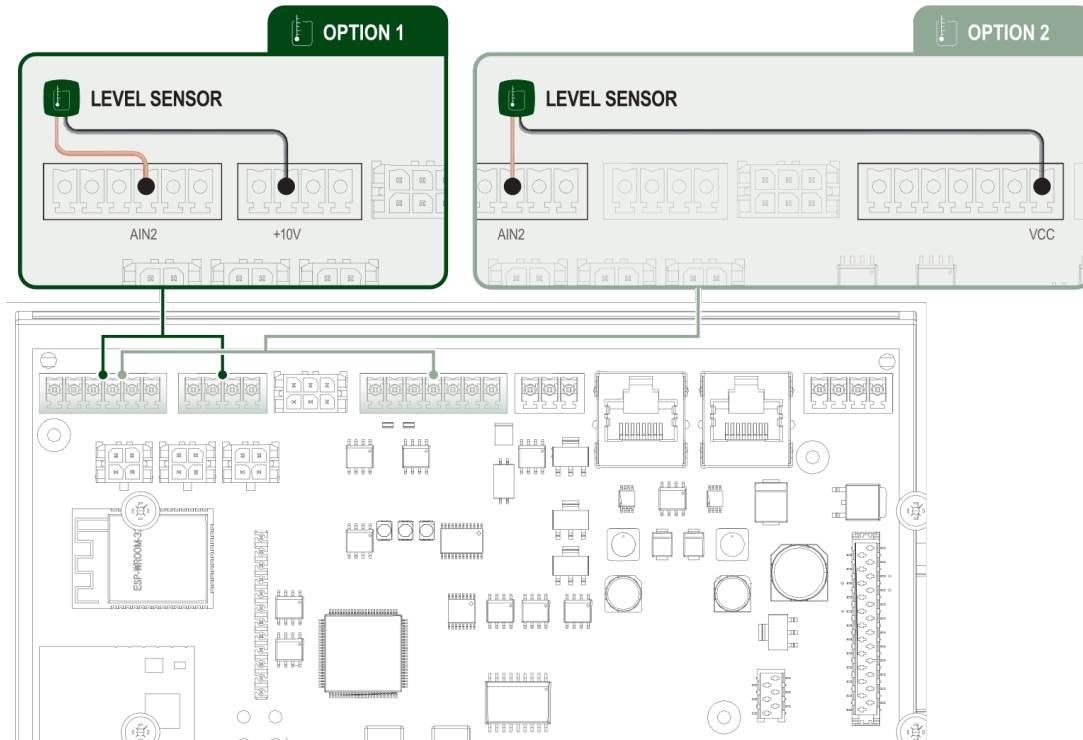

Fig. 18 Connecting to terminals
Esy I/O controls the water level via the two-wire 4/20 mA current depth sensor. The sensor can be powered up to 12V DC (Option 2, see Fig. 18), and the range can be set from the "H2D" app. The level sensor must be connected directly to the terminal block as in Fig. 18. Connection is possible via Option 1 or Option 2.
1. Level sensor to be used for monitoring rainwater levels in the rainwater tank. For wiring, connect the power cable to the AIN2 and +10V or AIN2 and VCC terminal (see Fig. 18)